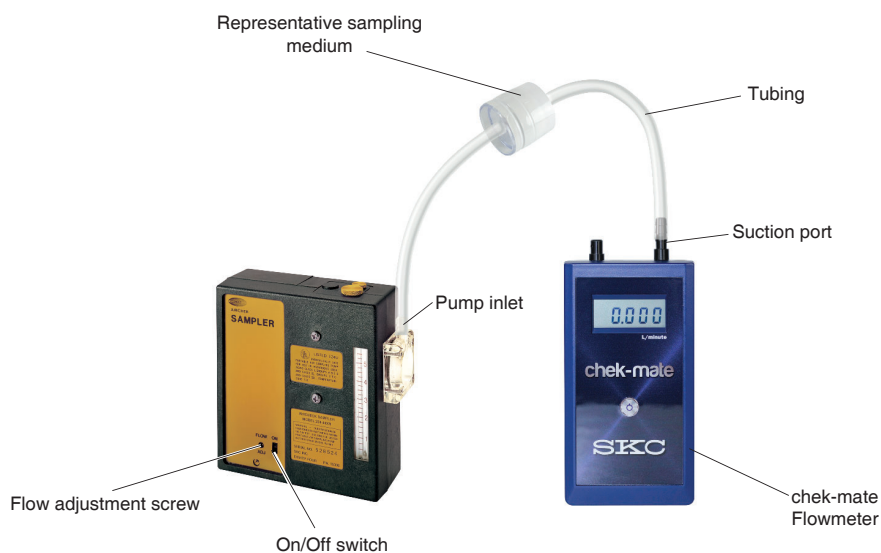

Figure 2. Flow Rate Verification Train with Filter Cassette
3. Set up a flow rate verification train (*Figure 2*): Using flexible tubing, connect the flowmeter outlet (suction port) to the representative sampling medium inlet. Using 1/4-inch Tygon tubing, connect the representative sampling medium outlet to the pump inlet.
- a. Turn on the pump and reinstate the flow rate verification train (*Figure 2*).
1. Start the pump using the on/off switch (Figure 2), and adjust the flow rate by turning the flow adjustment screw (Figure 2) until the built-in rotameter reads approximately 1.5 L/min.
2. Remove the cap screw covering the regulator valve (Figure 2) and turn the exposed screw four to five turns **counterclockwise**.
3. Start sampling by turning on the pump using the on/off switch (*Figure 2*), and record the start time.